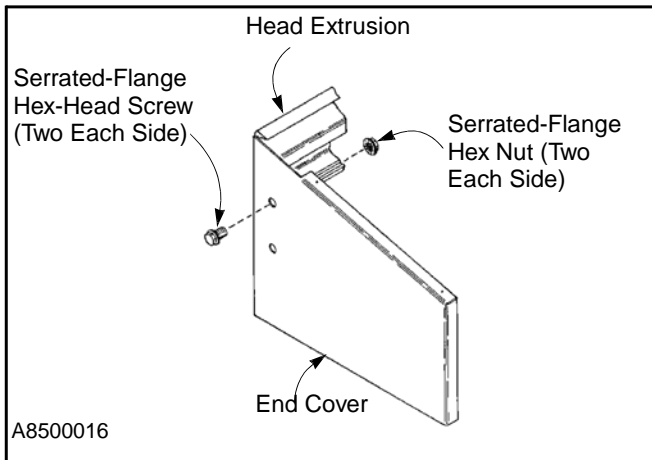

Figure 51
1. Attach the hood end covers to their respective U-bracket installed earlier on the side columns. Use two $\frac{3}{8}$ -16 x $1\frac{1}{4}$ -in. serrated-flange hex screws and nuts for each end cover. (See Figure 51.)